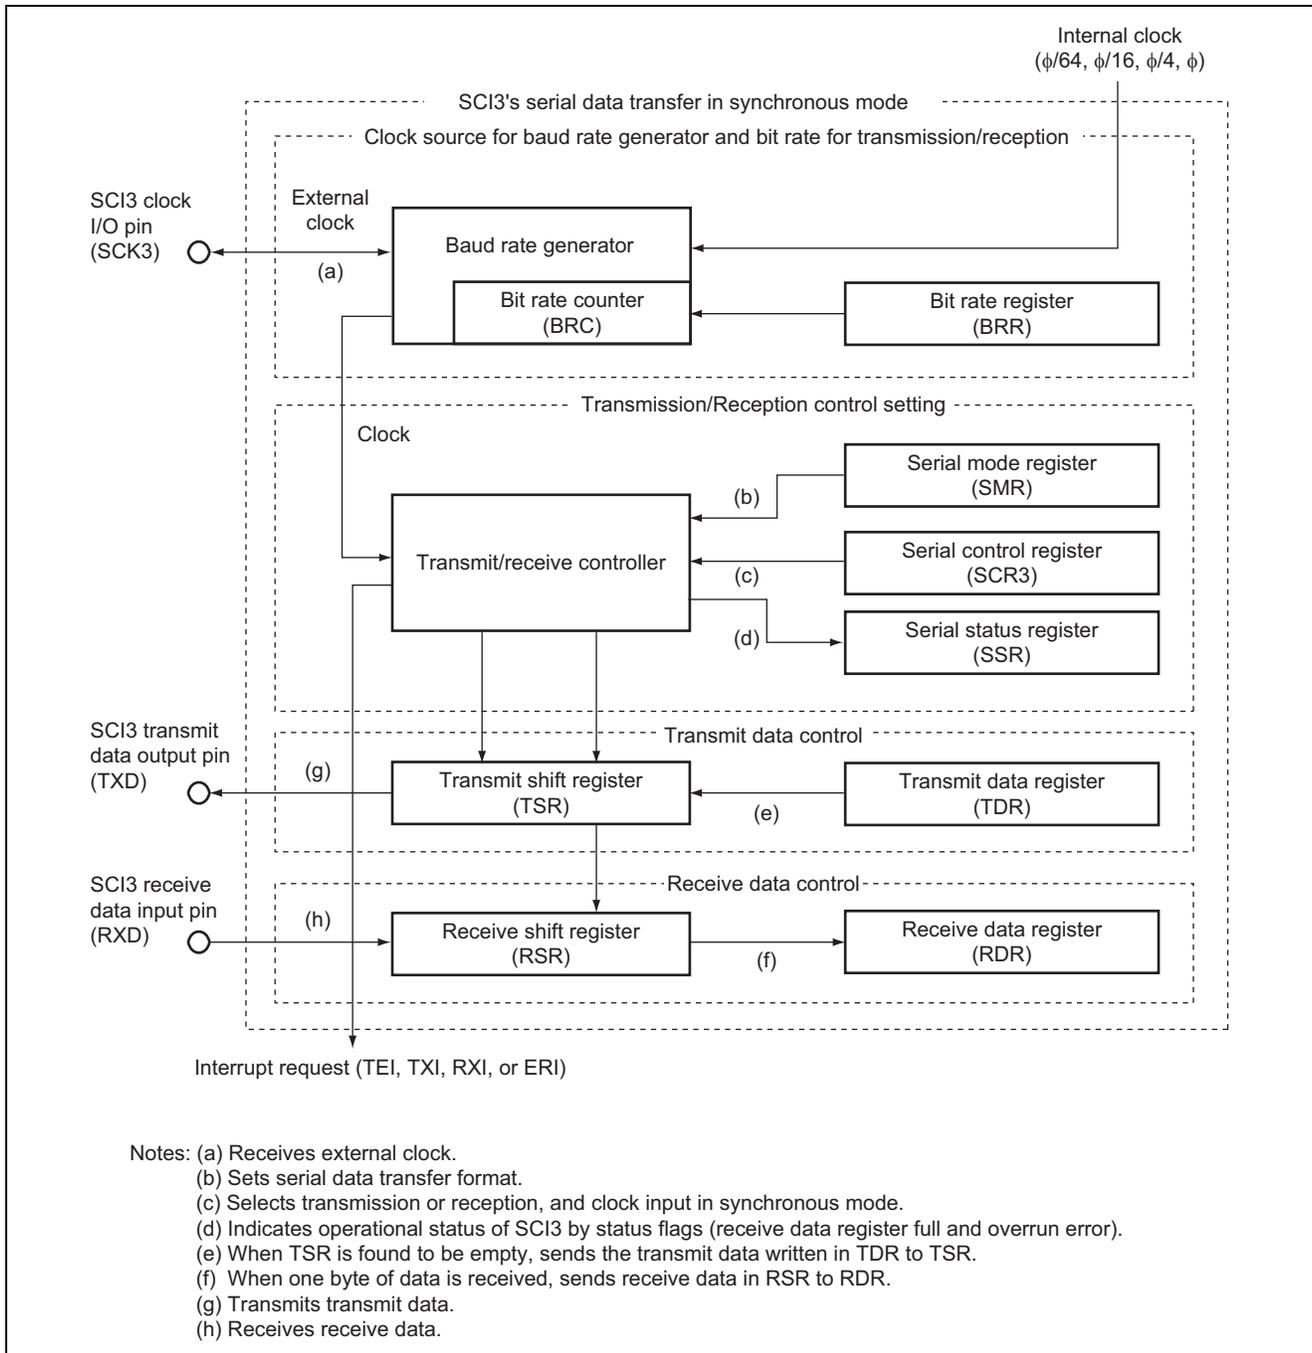

Figure 2 Serial Data Reception in Synchronous Mode
1. In this sample task, serial data is received in synchronous mode via the serial communication interface (SCI). Figure 2 is a block diagram of serial data reception in synchronous mode. The elements of the block diagram are described below.